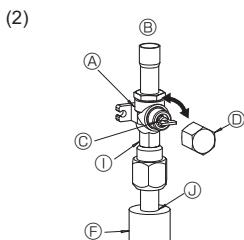

Fig. 4-7
- Stopventilens gasside (Fig. 4-7)